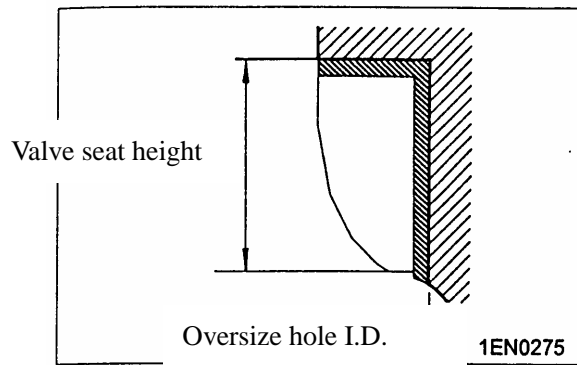

Fig.4-85
- (2) Rebore the valve seat hole in the cylinder head to match the selected oversize valve seat diameter, see Fig.4-85.